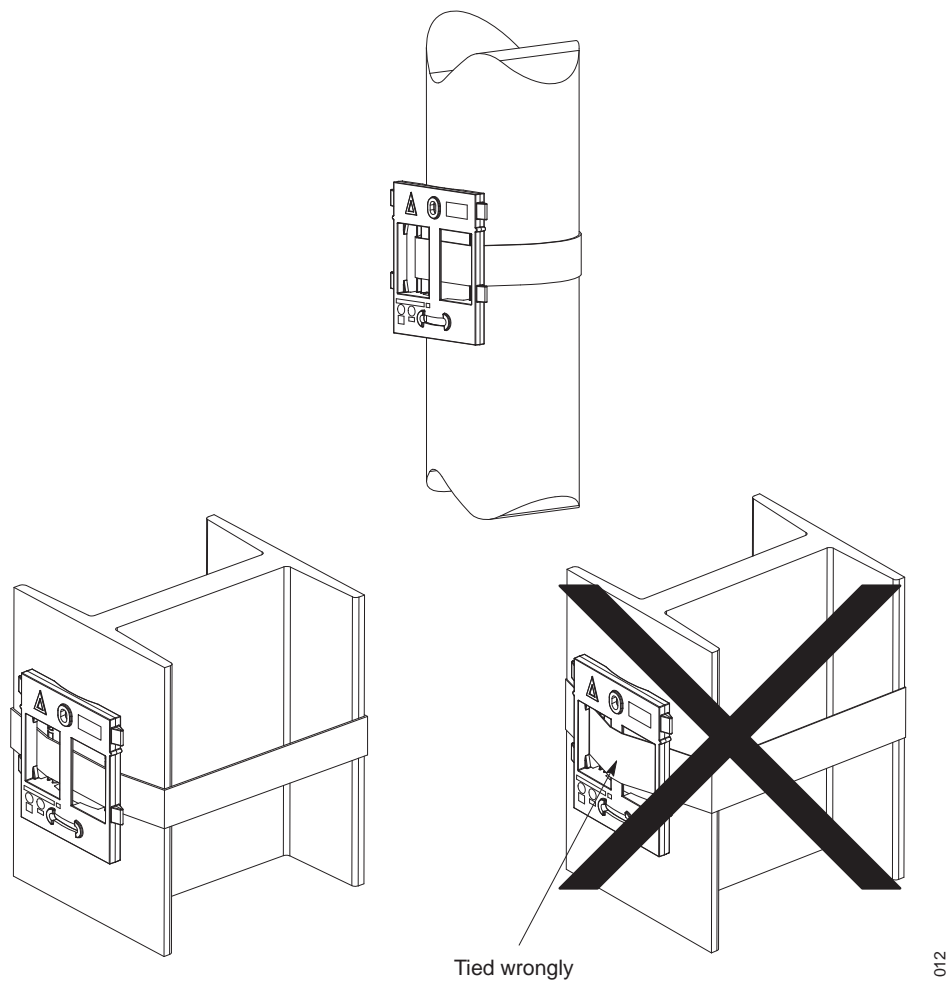

Figure 8. Fixing the mounting bracket to a pole or beam.
- 1 Fix the mounting bracket to a pole or beam using the band, see figure 8 on page 17.